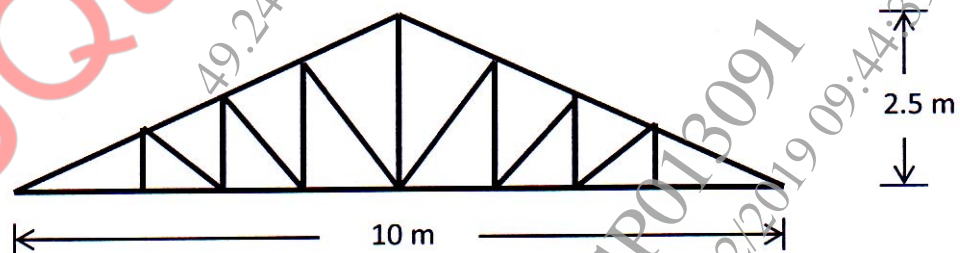

Figure 10
**Q10)** A roof truss as shown in figure 10 is used for industrial building situated at Pune. The trusses are placed at 3 m centre to centre. It is covered with GI sheets as roofing material. Assume  $k_1 = 1$ ,  $k_2 = 0.82$ ,  $k_3 = 1$  for wind load calculations. Design angle section purlin for the building. Determine panel point dead load, imposed load and wind load. [17]